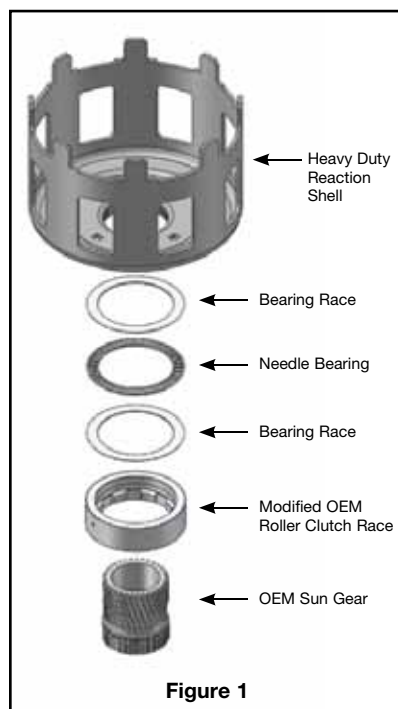

Figure 1
- Install Sonnax bearing races and needle bearing assembly (*see Figure 1*).